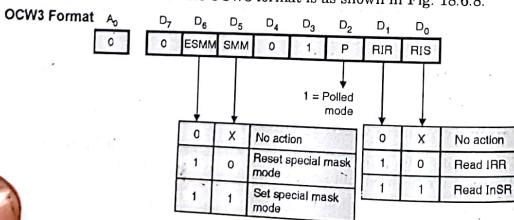

Fig. 18.6.8 : OCW3 format
- Read IRF and InSR. A write command issued with $A_0 = 0$ and $D_4 D_3 = 01$ is considered as OCW3. The OCW3 format is as shown in Fig. 18.6.8.